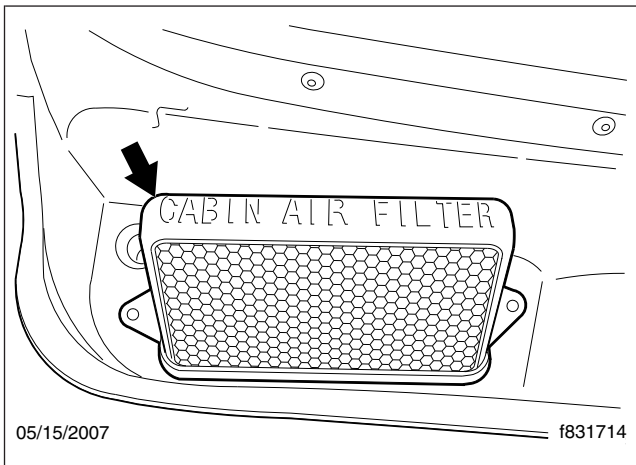

Fig. 2, Intake Screen
3. Remove the intake screen. See Fig. 2.